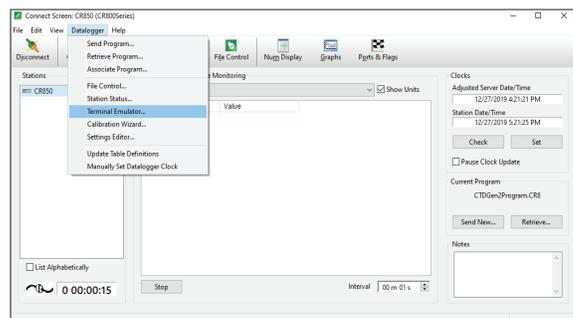

Figure 34 Open terminal emulator window
10. From the top menu bar click on **Data Logger > Terminal Emulator** (Figure 34).